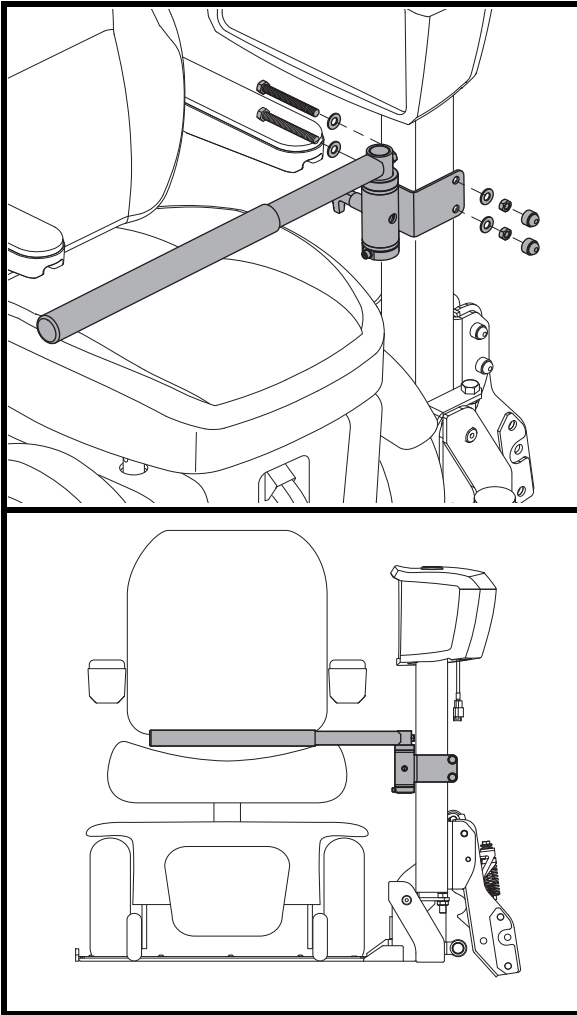

Figure 6. Hold Down Bar Installation
3. Place the Power Chair hold down bar on the seat into the cushion. Once secured, attach to mast with supplied hardware. See figure 6.